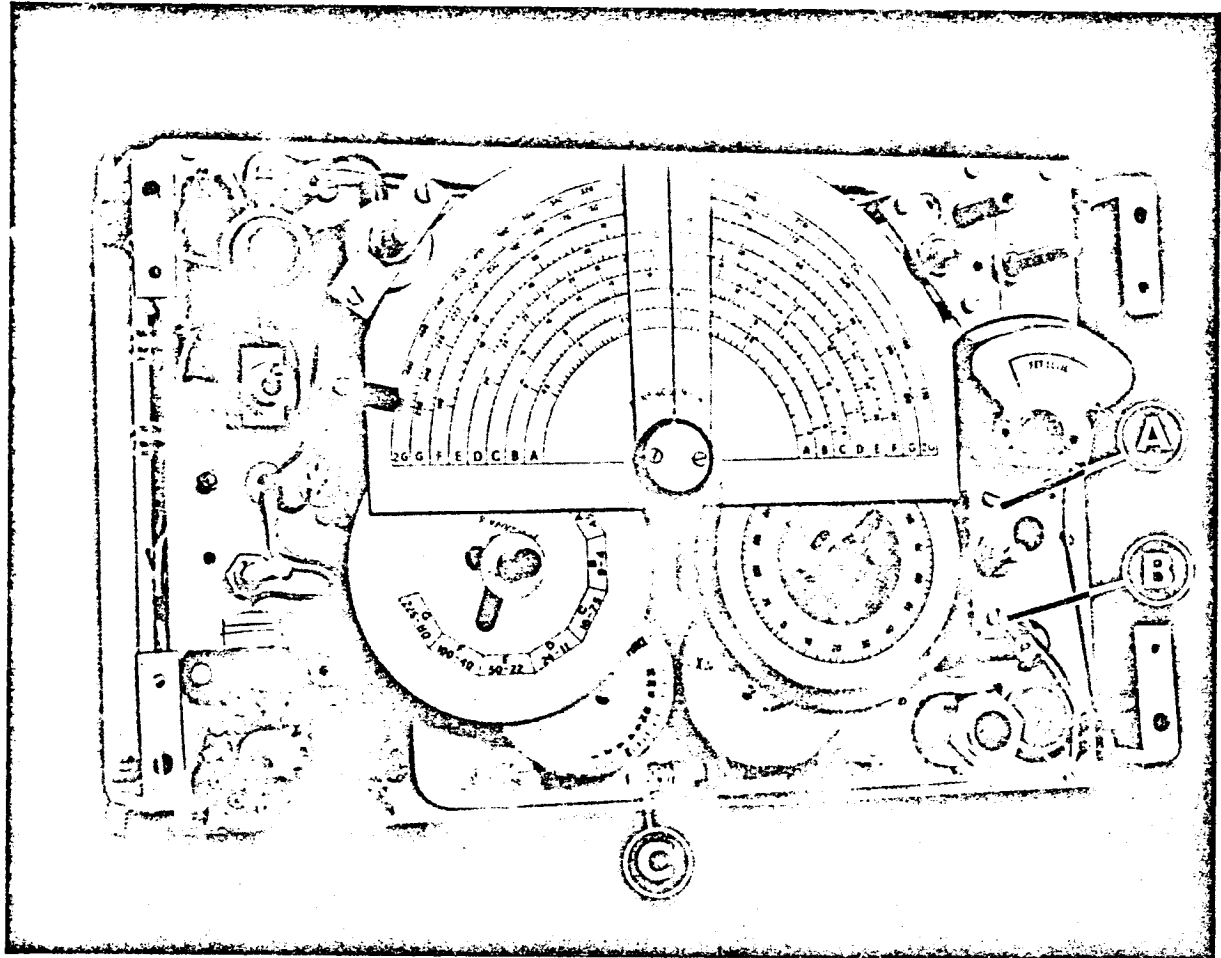
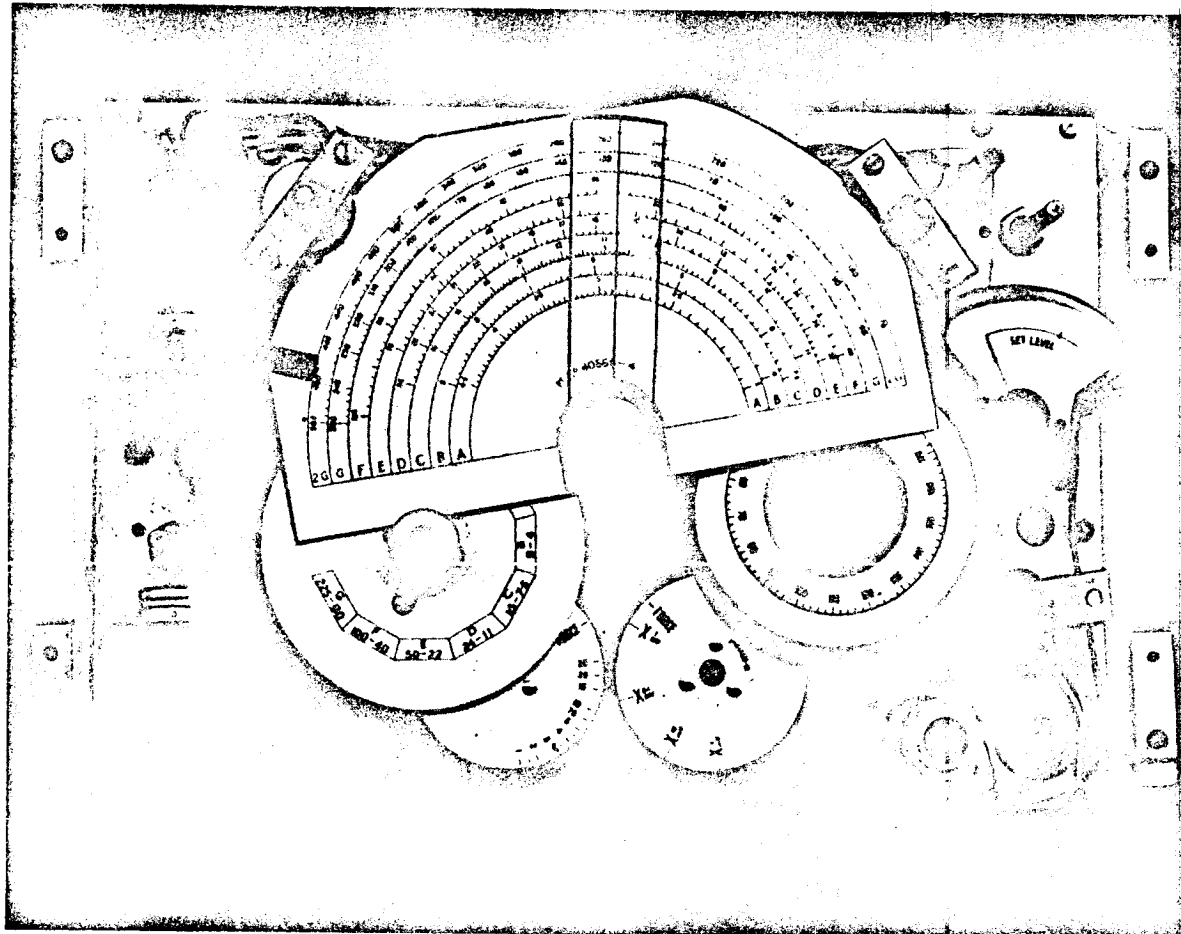

Fig. 2.2.1
Fig. 2.2.2
- (1) Mark and unsolder three wires from the output terminals below the control panel, also the modulator bias lead.
- (2) Unscrew the retaining rings from the MAINS input plug and MAINS switch so that they will drop through the panel.
- (3) Remove knobs and carrier from control spindles by removing the screw in the top of each knob, and then extracting the retaining pin from each knob carrier. Unscrew the knurled ring from the ENGAGE FINE CONTROL. Note the washers.
- (4) Remove carrying handles.
- (5) Remove the retaining nut from the MOD. switch so that it can drop through the panel.
- (6) Remove eight fixing screws from the control panel.
- (7) Remove movement fixing nuts from SET LEVEL INDICATOR.
- (8) Lift off control panel. (See Figure 2.2.1).
- (9) Remove bolt in pillar 'A' and loosen the other 'B' holding the drive to the right hand uniformly calibrated dial, and swing assembly away from dial. Remove bulb holder 'C'. (See Figure 2.2.2).
- (10) Set the Cursor to the low frequency-P.H.S. end of scale and turn instrument over. Carefully unscrew circular screening can from r.f. compartment.
- (12) Turn instrument back to its original position, and unsolder wire entering attenuator from the tag-board on the left hand side of the attenuator.
- (13) Remove the seven screws holding the attenuator to the main chassis. The heads of the screws are on the Mains transformer side of the plate. Two of the screws hold down the back cover of R.F. output plug.
- (14) Remove the hexagonal pillar that holds screw A (Fig. 2.2.1). Place the right hand uniformly divided dial into the position shown in Figure 2.2.2. Turn the spindle until the hole in the circular plate beneath the calibrated dial lines up with the plug-nut in the attenuator casting. Loosen this plug-nut.